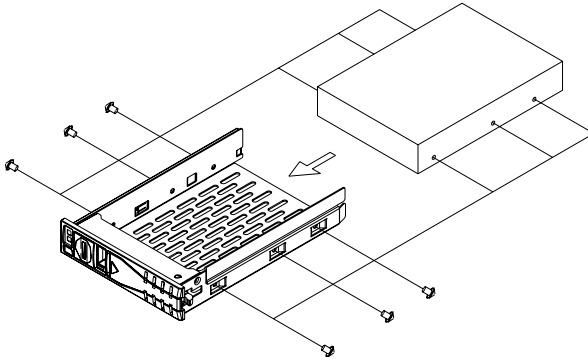

Figure 2.6: Installing a SATA HDD
2. Refer to Figure 2.6 and slide one SATA hard disk drive into the proper location in the tray and fix it with 4 ~ 6 screws.